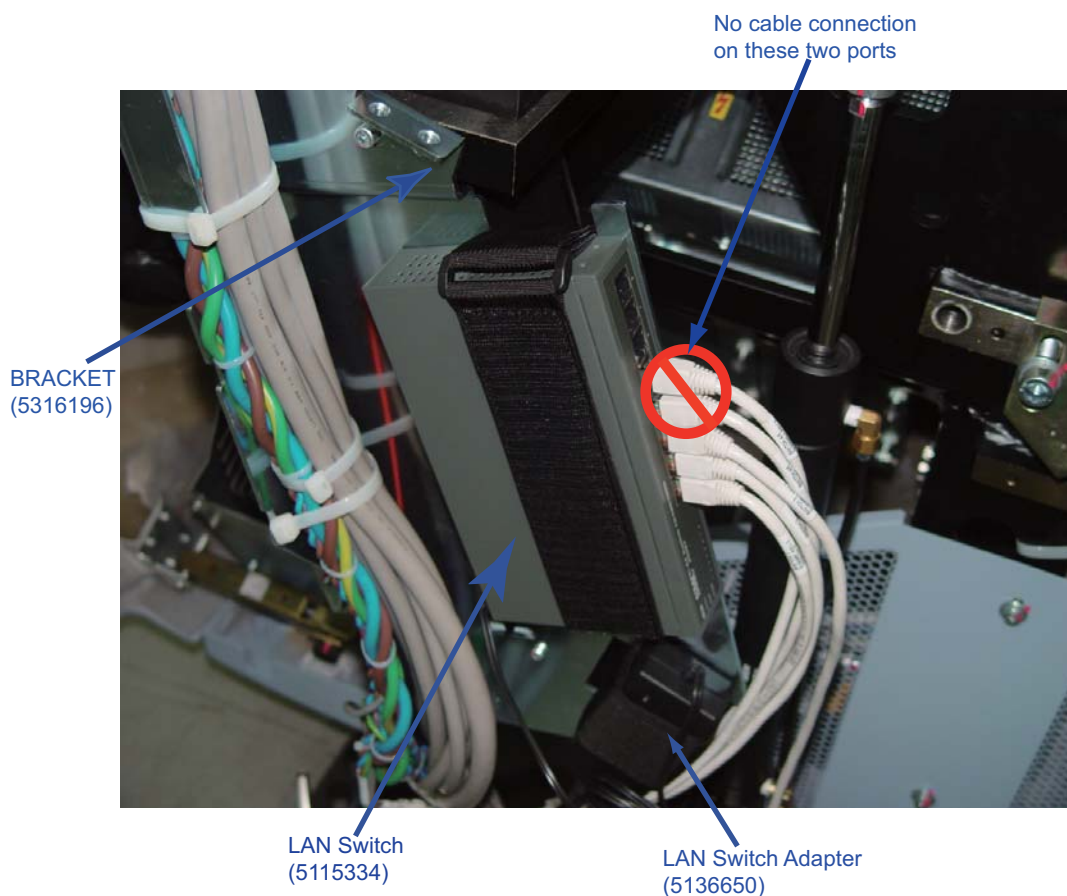

Figure 1-2 LAN Switch Assembly
- 4.) Press LAN switch on 5316196 and use Velcro tape (2315482-3) to fix it. Please refer to Figure 1-2